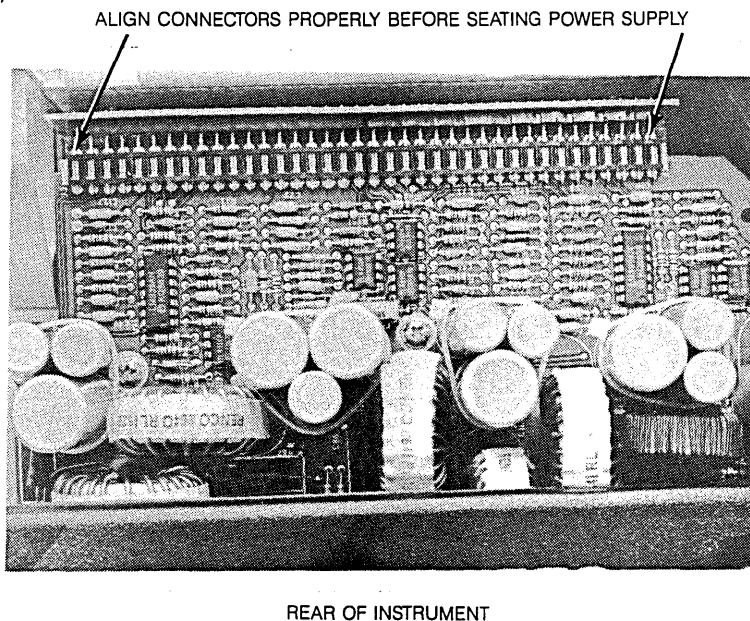

Figure 6-32. Power Supply Connector Alignment
- h. Reverse the above procedure to install the new power supply. Ensure that the front connector and rail guides are properly aligned before pushing the power supply into place (see figure 6-32 and 6-33).